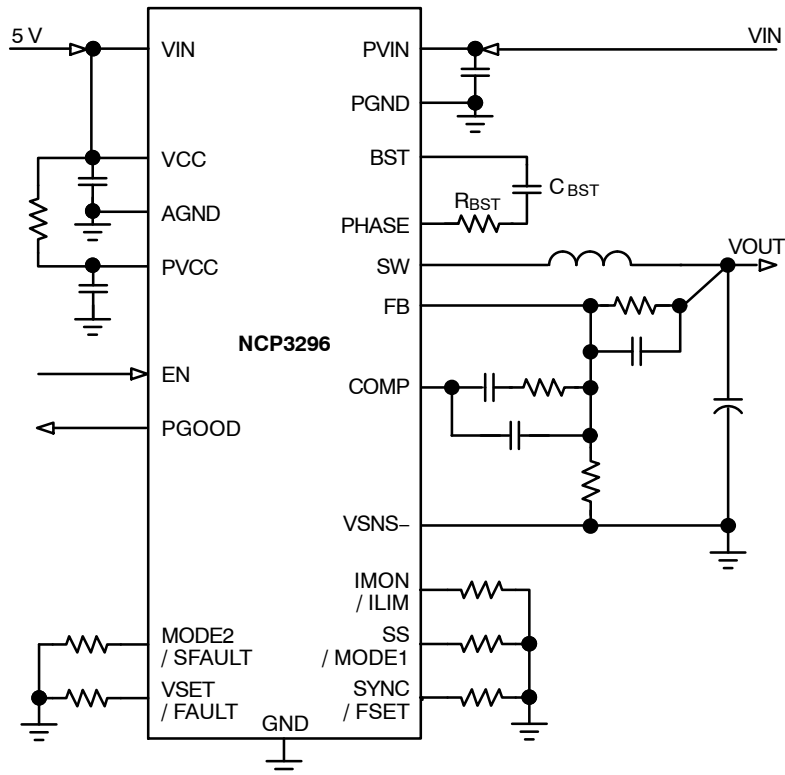

Figure 2. Typical 12 V_{IN}, 40 A Application Circuit with External 5 V VCC Supply (LDO Disabled)
5. Operation at <4.5V_{IN} requires external 5 V supply be applied to the VIN and VCC pins per Figure 2.